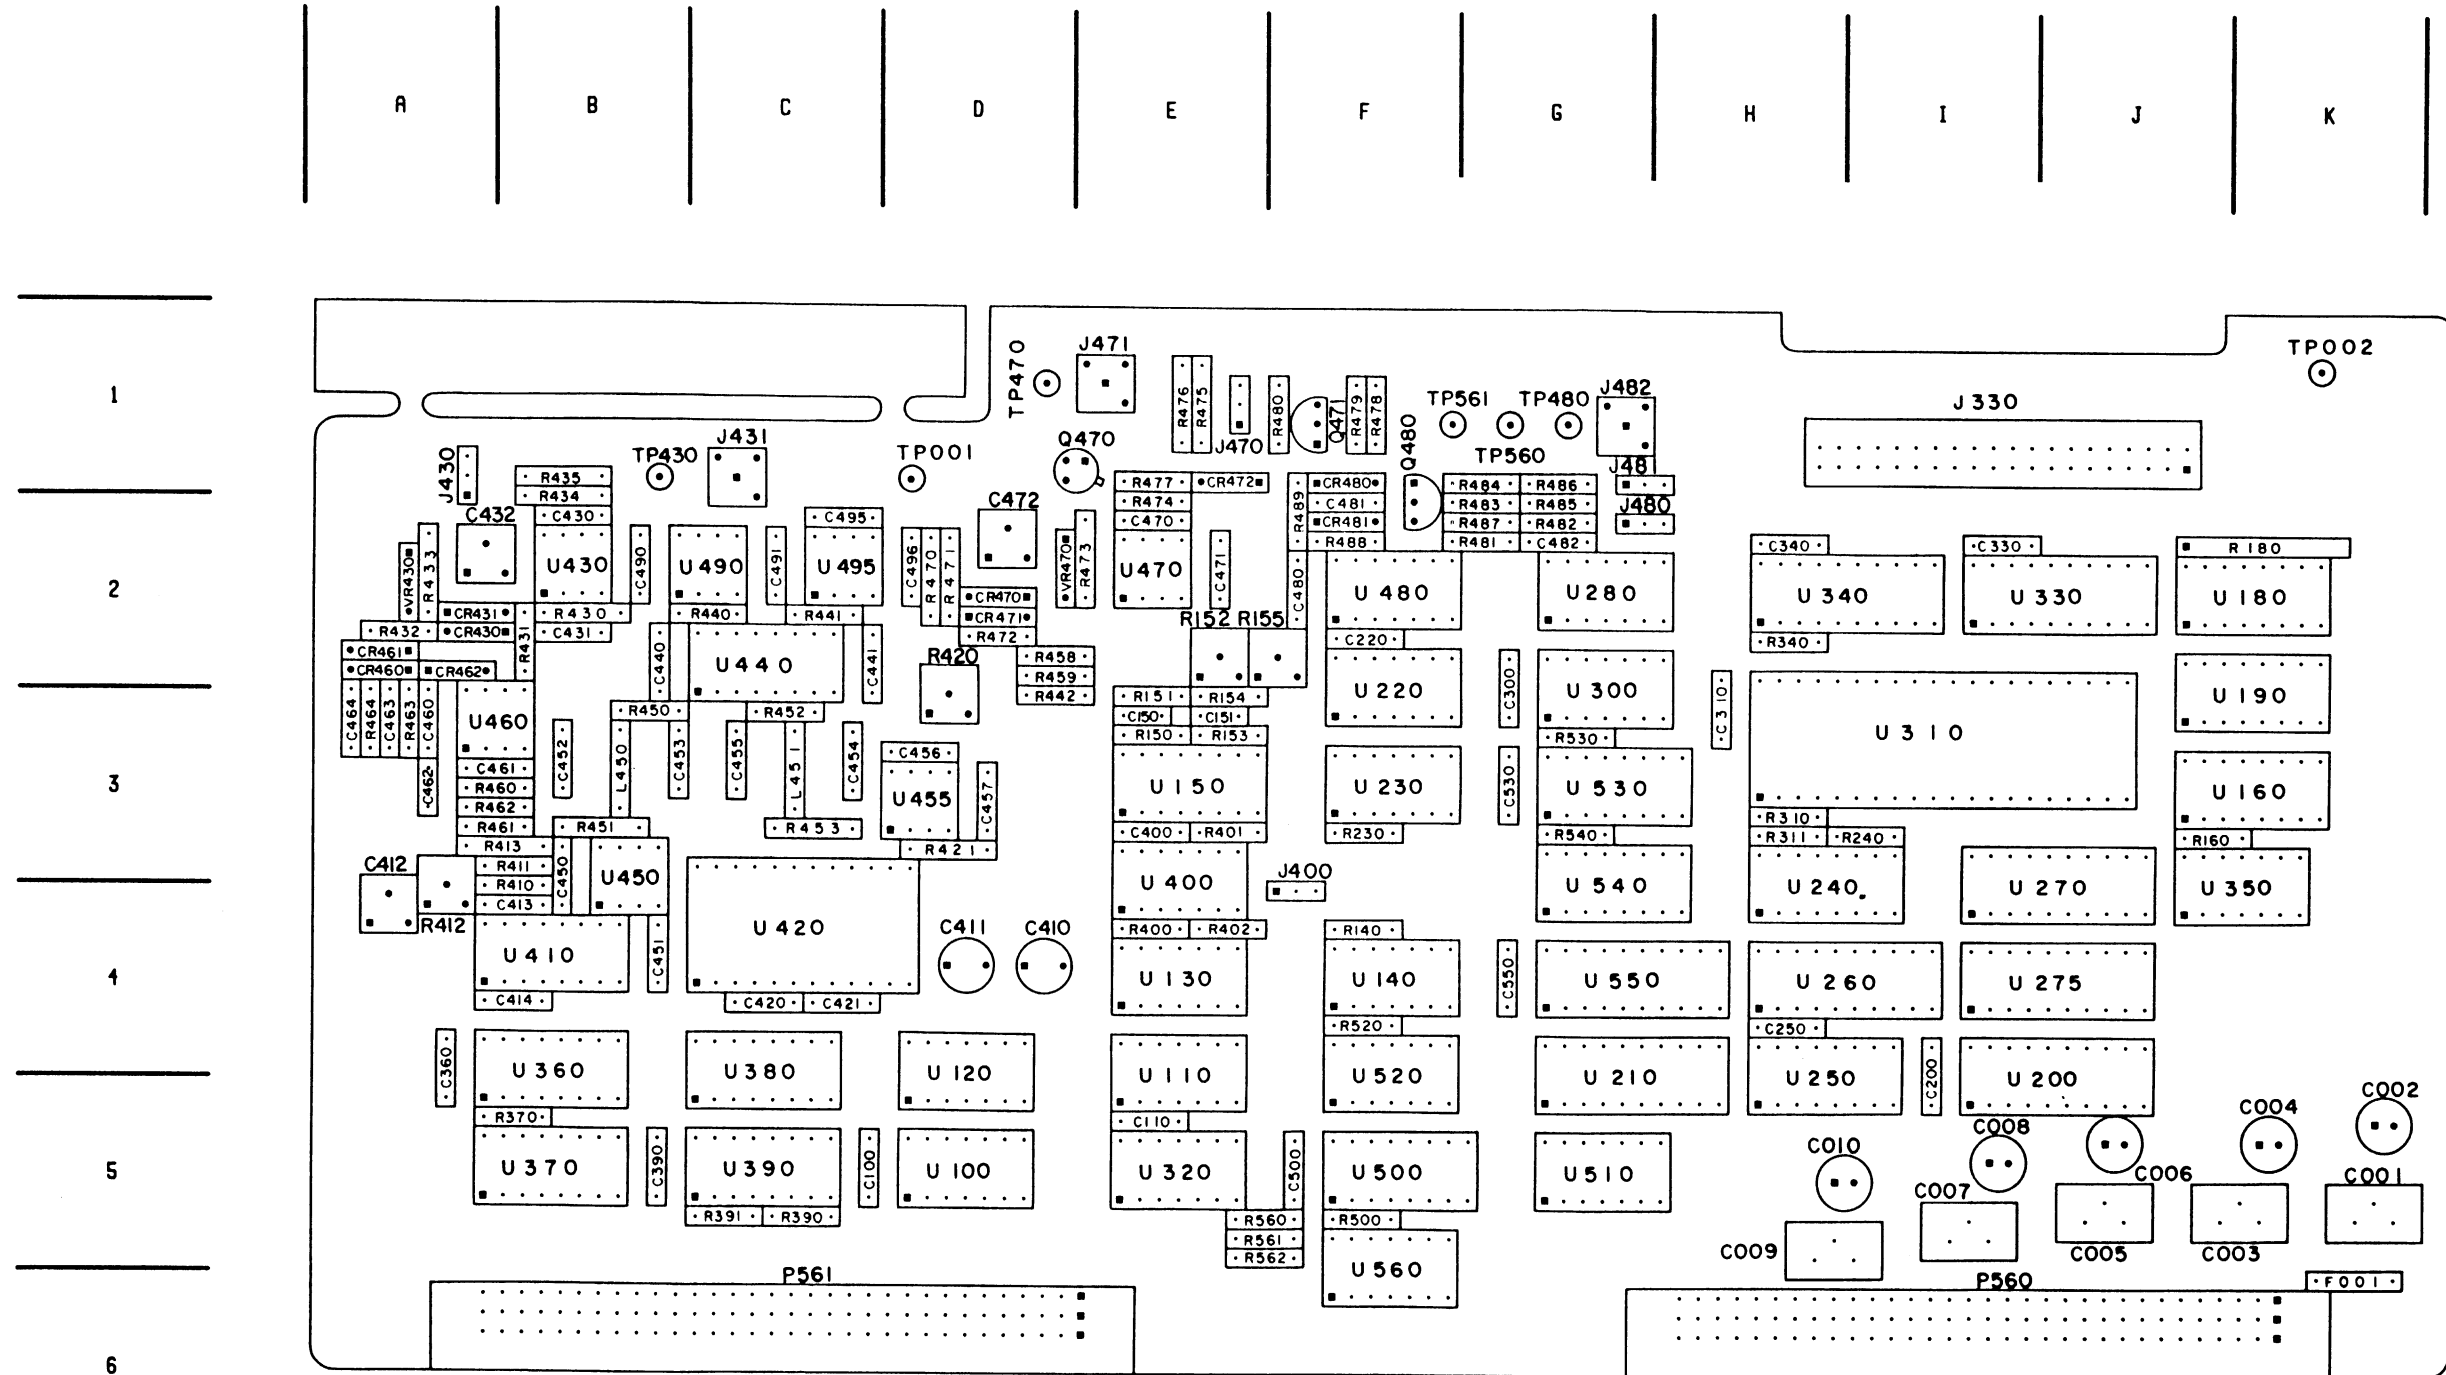

Fig. 8-16. A56 GPIB/MONITOR BD., CIRCUIT BD. ASS.
**ASSY A56 (Fig.8-16) circuit board illustration faces Diagram 56.**
ASSY A56 (Fig.8-16) circuit board illustration faces Diagram 56.